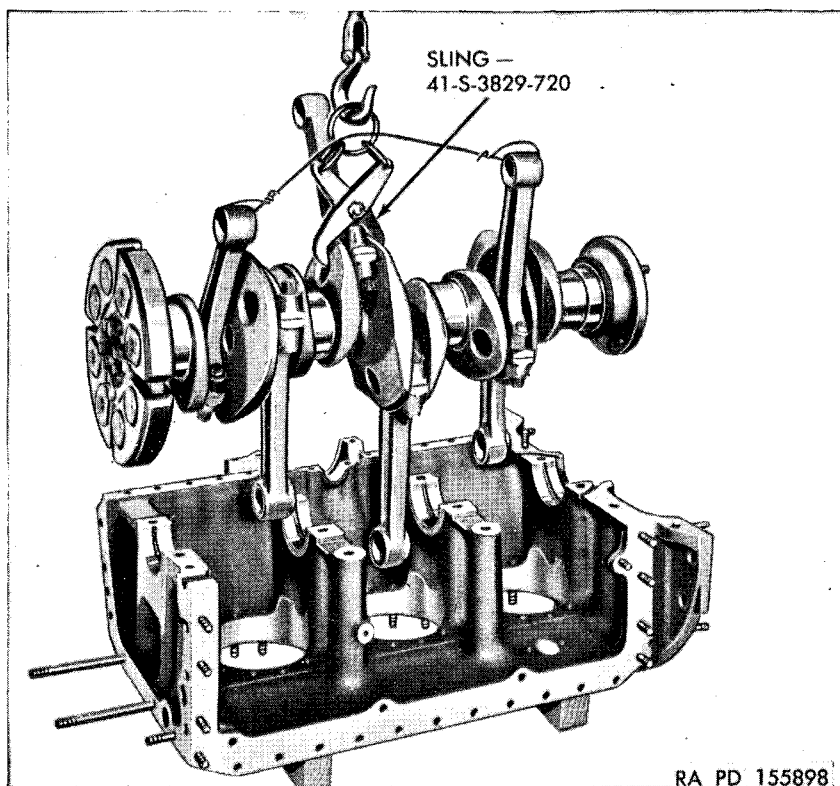

Figure 28. Lifting crankshaft and connecting rod assembly from crankcase.
f. Attach the crankshaft lifting sling 41-S-3829-720 (fig. 28) to lifting eye 41-E-615-350. Tie the connecting rods in a vertical position with twine or wire as shown in figure 28. Raise the crankshaft and connecting rod assembly high enough with a chain fall to remove the crankshaft main bearings (AP) and crankshaft thrust main bearing (AQ).